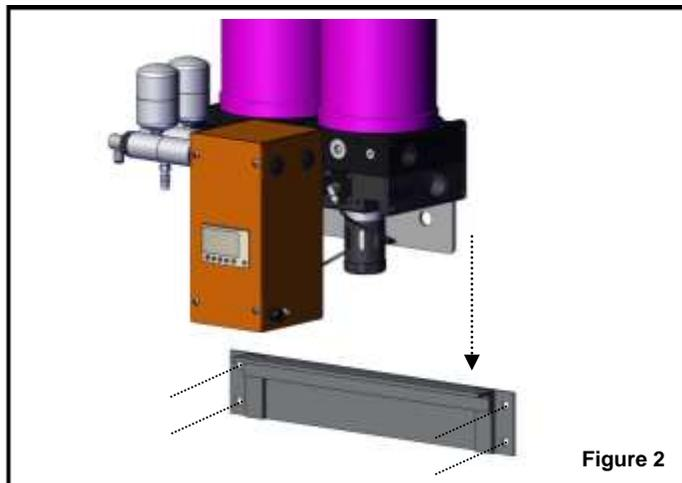

Figure 2
2. Using the appropriate hardware (not included), mount dryer bracket to wall. *Figure 2*
3. Once the wall bracket has been properly secured to the wall, place the dryer mounting rail into the slot(s) of the wall bracket. *Figure 2*